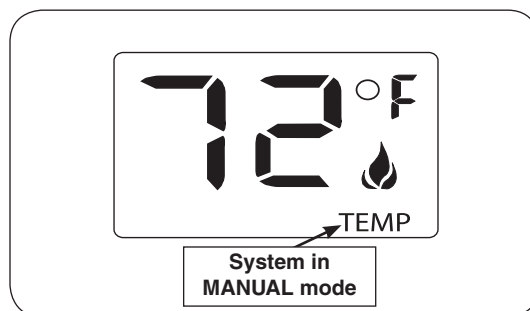

Fig. 43-3 MANUAL mode - default screen
- **Manual Mode (Fig. 43-3):** In this mode, the room temperature is ignored and the fireplace can be turned on indefinitely. The room temperature rise has no effect on this mode. The screen will default to display room temperature (according to the remote transmitter) and the word TEMP will show.